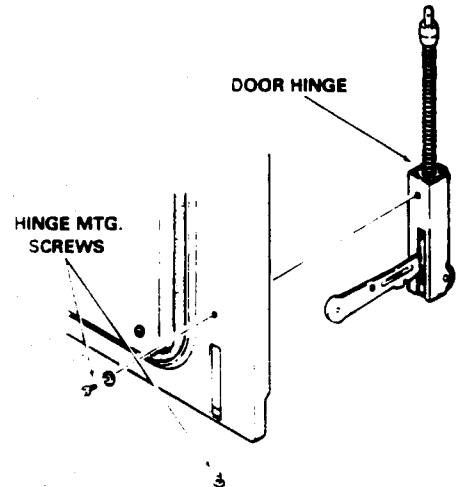

Fig. 3
2. Hinge is now accessible and can be removed by removing two screws as depicted in Fig. 3.